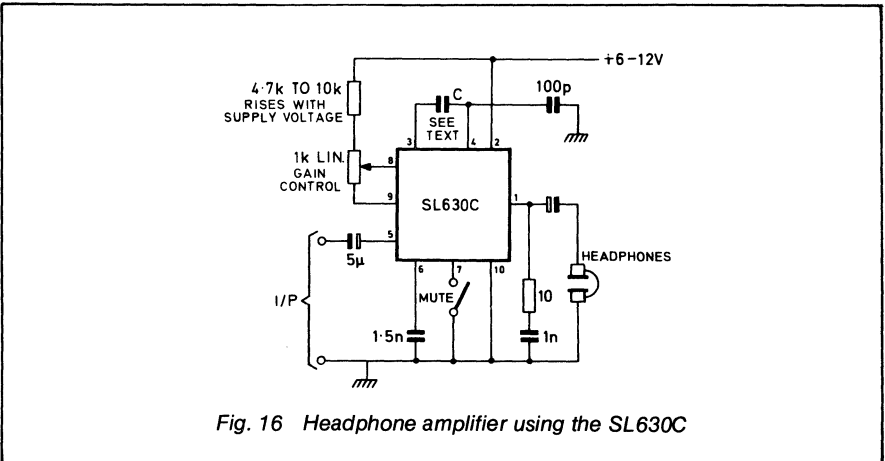

Fig. 16 Headphone amplifier using the SL630C
To maintain HF stability — particularly on negative half-cycles — the output (pin 1) should be decoupled by a 1,000pF, low series inductance, capacitor placed directly between pins 1 and 10 (8) with leads cut as short as possible. This component must be on the integrated circuit side of the output coupling capacitor. At high supply voltages and/or low temperatures 10 ohms must be placed in series with this capacitor and 100pF connected from pin 4 to earth. The output is coupled to its load with a capacitor of a low impedance relative to the load at the lowest frequency to be used. The load may be resistive or reactive and, for maximum power output, should lie on the load/supply line. *Any higher value of load impedance is quite safe but the device will over-dissipate and eventually destroy itself by overheating if the output is short-circuited.* The optimum load therefore, at any rate with supplies of over 9V, can be regarded as a safe minimum. The circuit shown in Fig. 16 which shows the SL630C used as a headphone amplifier, may also be used with loudspeakers having suitable impedances. The distortion is about 0.5 per cent at full output.
Gain control is applied to pin 8, (7) which has an input impedance of 3.6 kilohms. It must be appreciated that even with full gain control the input cannot exceed 50mV rms without clipping so that at high control levels the output level is limited. The AGC characteristics will vary with temperature but, as shown in Fig. 16 a potentiometer to give manual gain control can be connected to the internal bias point at pin 9 which provides a temperature-compensated reference at the voltage at which gain control commences. This reference pin is omitted on the SL1630C. Pin 10 (8) is the signal earth and negative power supply connection.